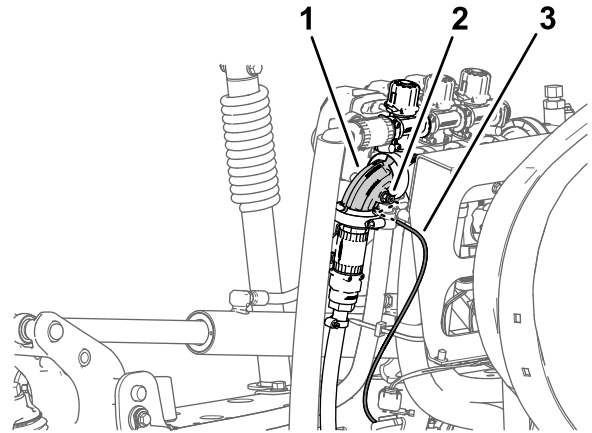

Figure 36
1. Press in the collar for the tube coupler in the 90° elbow of the right spray-section valve (Figure 36).
2. Pull the pressure-sense tube for the dash gauge out of the tube coupler (Figure 36).